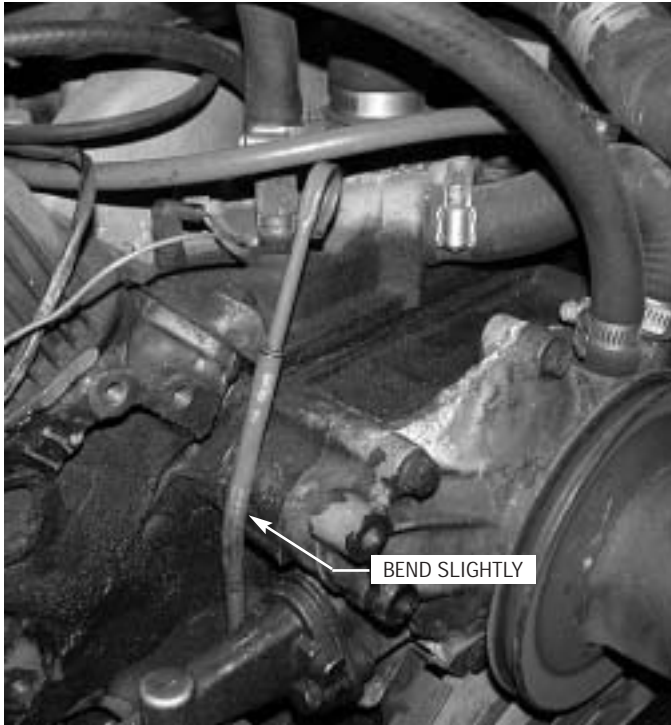

Fig. 5.1-a
- A. It will be necessary to slightly bend the factory oil dipstick for supercharger clearance. (See Fig. 5-1-a.)